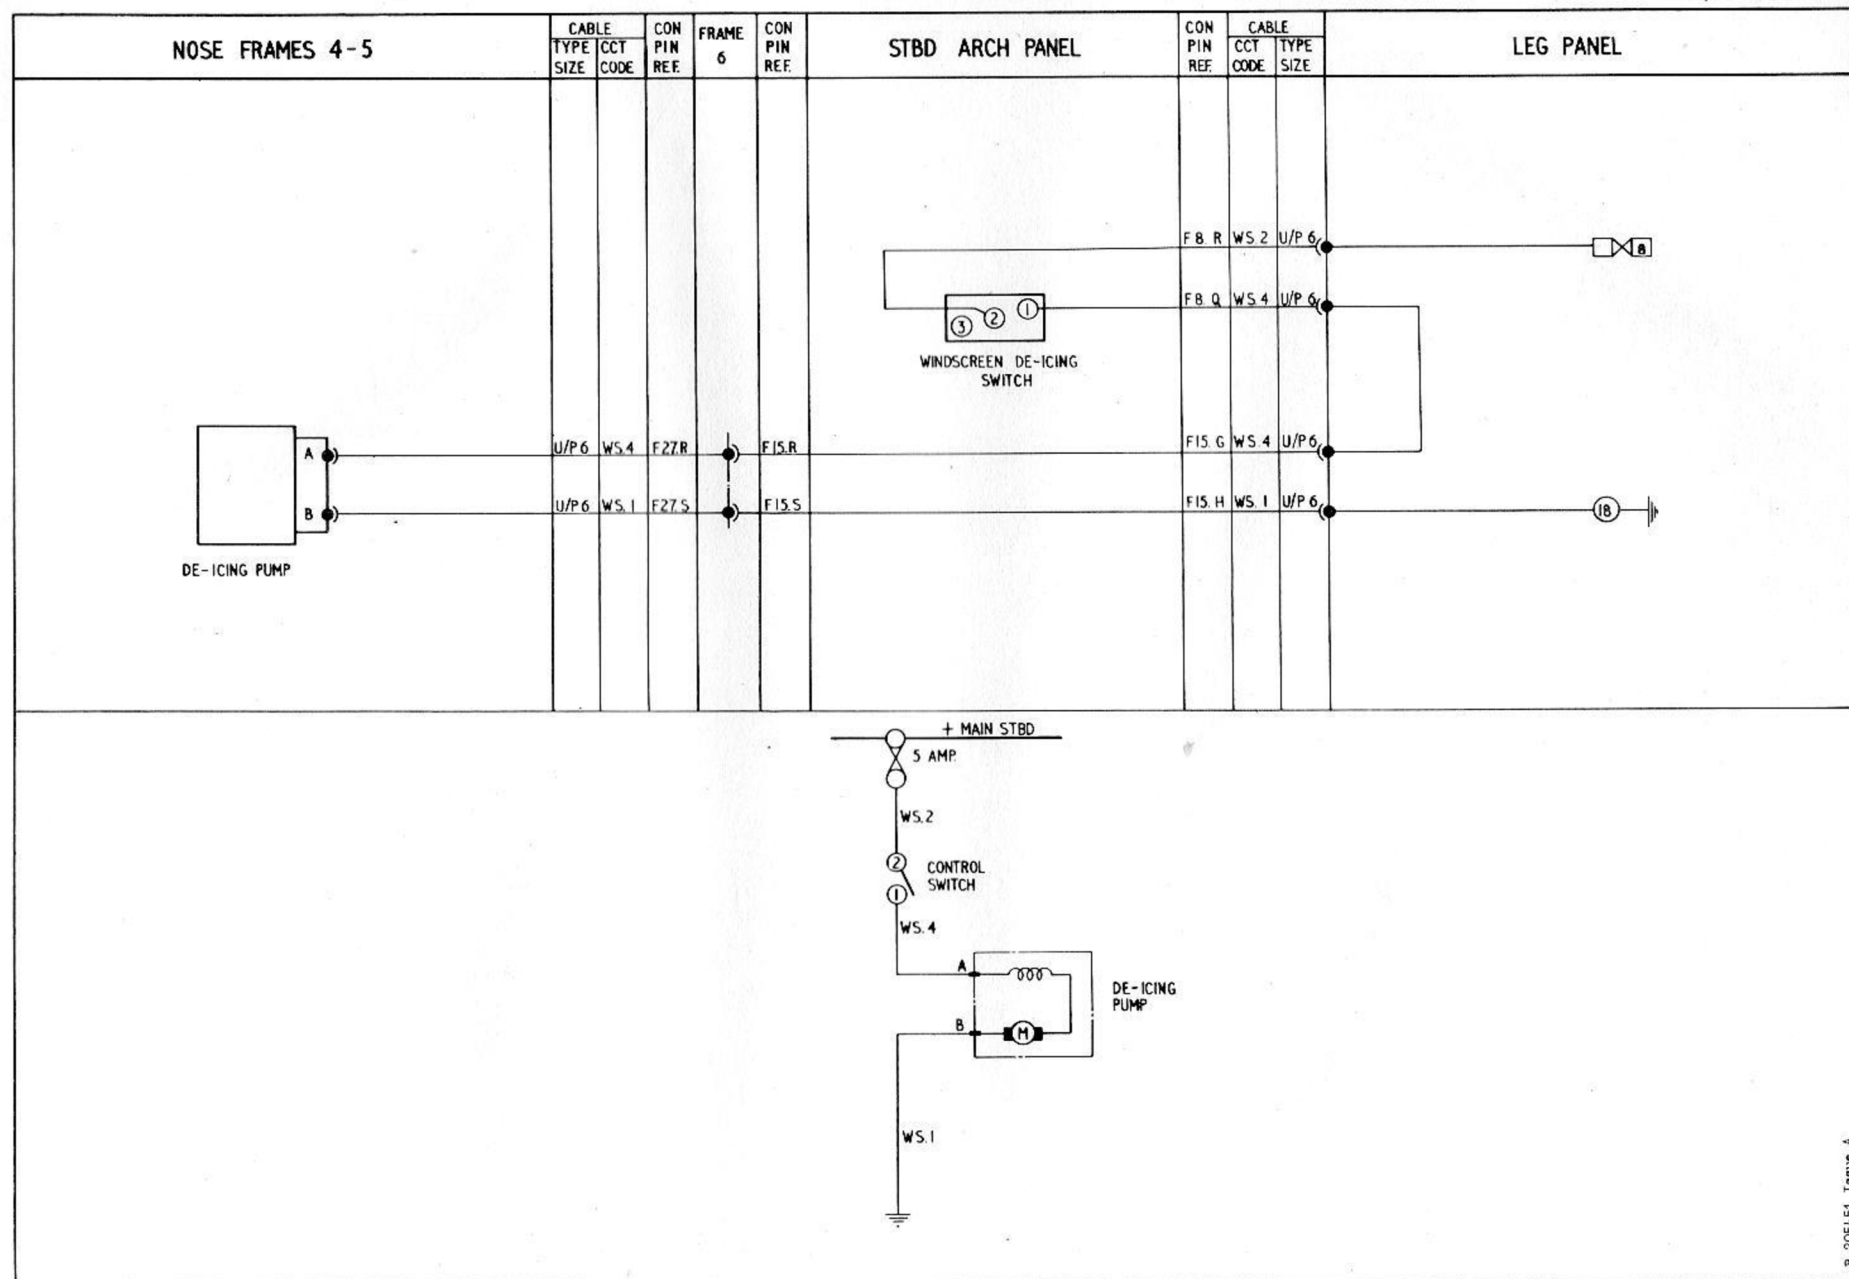

FIG. 1. WINDSCREEN DE-ICING PUMP
3. The operation of this circuit should be obvious, once reference is made to the theoretical diagram given in fig.1 of this group. For a full description of the windscreen de-icing system reference should be made to Section 3, Chapter 9 of this volume.